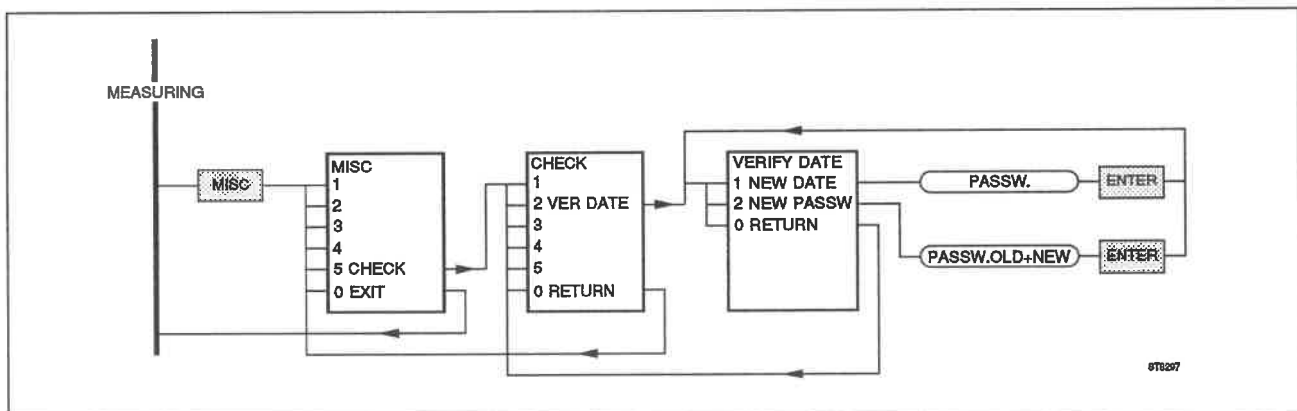

Fig. 6.3 Store/Recall verification date menu.
- press **MISC** to invoke the MISC (MISCellaneous functions) menu (Fig. 6.3).